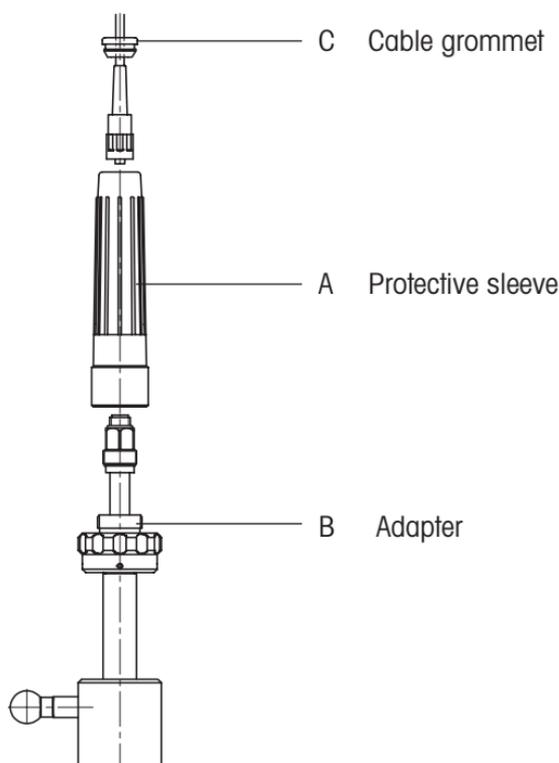

Figure 8 "Inserting the electrode"
2. Unscrew protective sleeve (A) from adapter (B) (see Fig. 8).
5. Pass the plug of the electrode cable through the protective sleeve (A), and screw to the receptacle of the electrode (see Fig. 8).
6. Screw the protective sleeve (A) fingertight to adapter (B).
7. Draw cable grommet (C) over cable and press it into protective sleeve (A).
2. Detach cable grommet (C) from protective sleeve (A) (see Fig. 8).
3. Unscrew protective sleeve (A) from adapter (B).
4. Remove cable grommet (C) from protective sleeve (A) (see Fig. 8).
5. Unscrew protective sleeve (A) from adapter (B).
4. Remove cable grommet (C) from protective sleeve (see Fig. 8).
1. Unscrew protective sleeve (A) from adapter (B) (see Fig. 8).